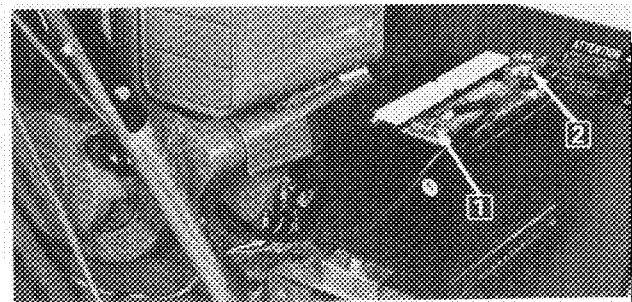

Figure 13
26. Set battery onto mounting plate of snow thrower. Battery posts must be to the outside, not toward the fuel tank (Fig. 13). Allow about one inch of the battery to extend over outside of mounting plate (Fig. 13).
27. Push clamp at end of black battery cable, which is grounded to engine, onto smallest diameter, negative (–) battery post (Fig. 13). Tighten clamp retaining nut. Next, push clamp at end of black battery cable with red band, which is con-
nected to the solenoid, onto the largest diameter, positive (+), battery post (Fig. 13). Tighten clamp retaining nut.
Note: Battery cables must be specially routed on and around the battery (Fig. 13).